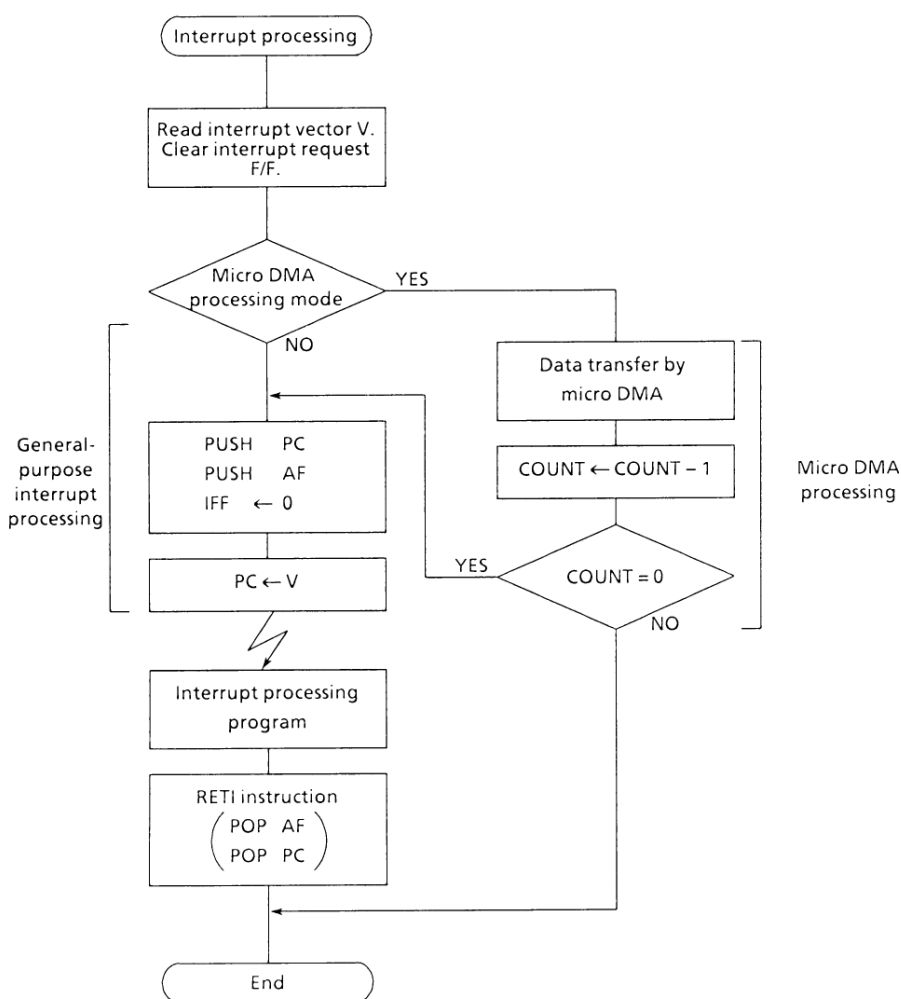

Figure 3.3 (6). Interrupt Processing Flow Chart
The interrupt circuit diagram is shown in Figure 3.3 (8). The left side of this diagram shows the interrupt controller, and the right side shows the CPU interrupt request signal circuit and halt release circuit.